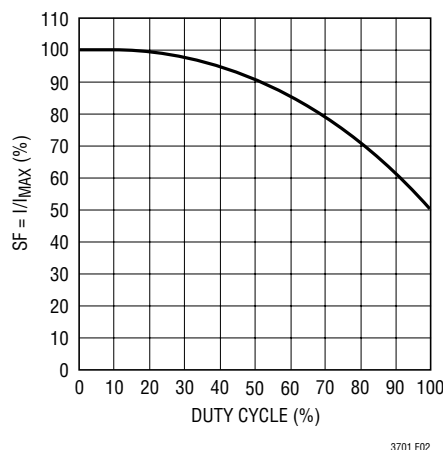

Figure 2. Maximum Peak Current vs Duty Cycle
**Note 6:** Peak current sense voltage is reduced dependent on duty cycle to a percentage of value as given in Figure 2.
when the LTC3701 is operating below 20% duty cycle. However, once the duty cycle exceeds 20%, slope compensation begins and effectively reduces the peak inductor current. The amount of reduction is given by the curve in Figure 2.
However, for operation above 20% duty cycle, slope compensation has to be taken into consideration to select the appropriate value of RSENSE to provide the required amount of current. Using Figure 2, the value of RSENSE is: